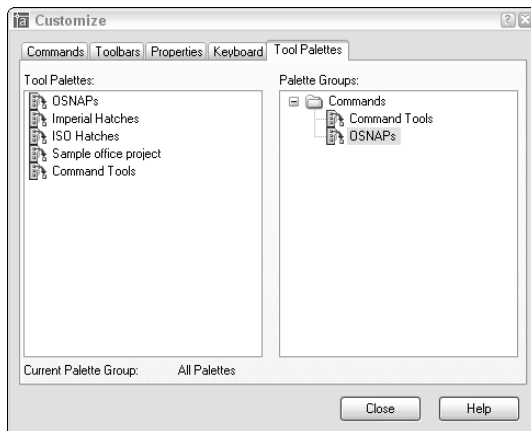

Figure 29-11: The Tool Palettes tab of the Customize dialog box.
To customize tool palettes, choose **Tools ⇨ Customize ⇨ Tool Palettes** to display the Tool Palettes tab of the Customize dialog box, shown in Figure 29-11. The current tool palettes are listed. Remember that each tab on the Tool Palette window is considered a separate tool palette.
- ♦ **Organize tool palettes into groups:** In the Palette Groups area, right-click and choose New Group. Enter a name for the group and press Enter. From the Tool Palettes list on the left side of the dialog box, drag one or more tool palettes under the group name on the right, as you see in Figure 29-11.